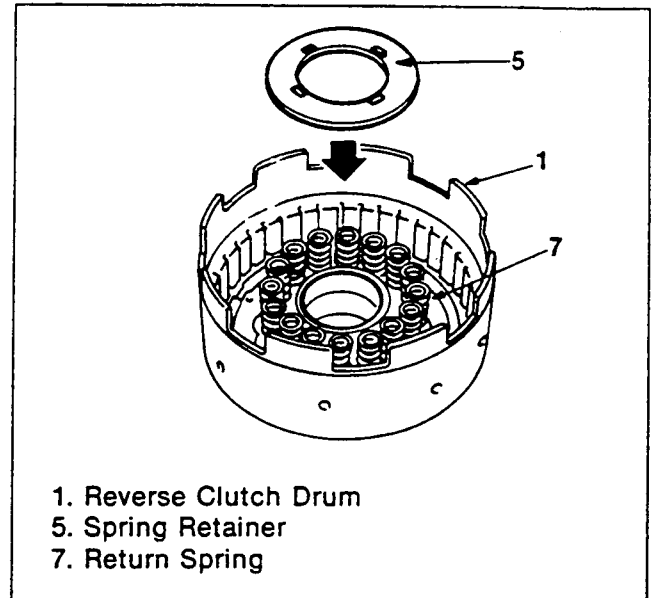

Figure 124. Return Spring Installation (1)
Return Spring (Figures 124 and 125)
1. Install the return springs and spring retainer (figure 124).